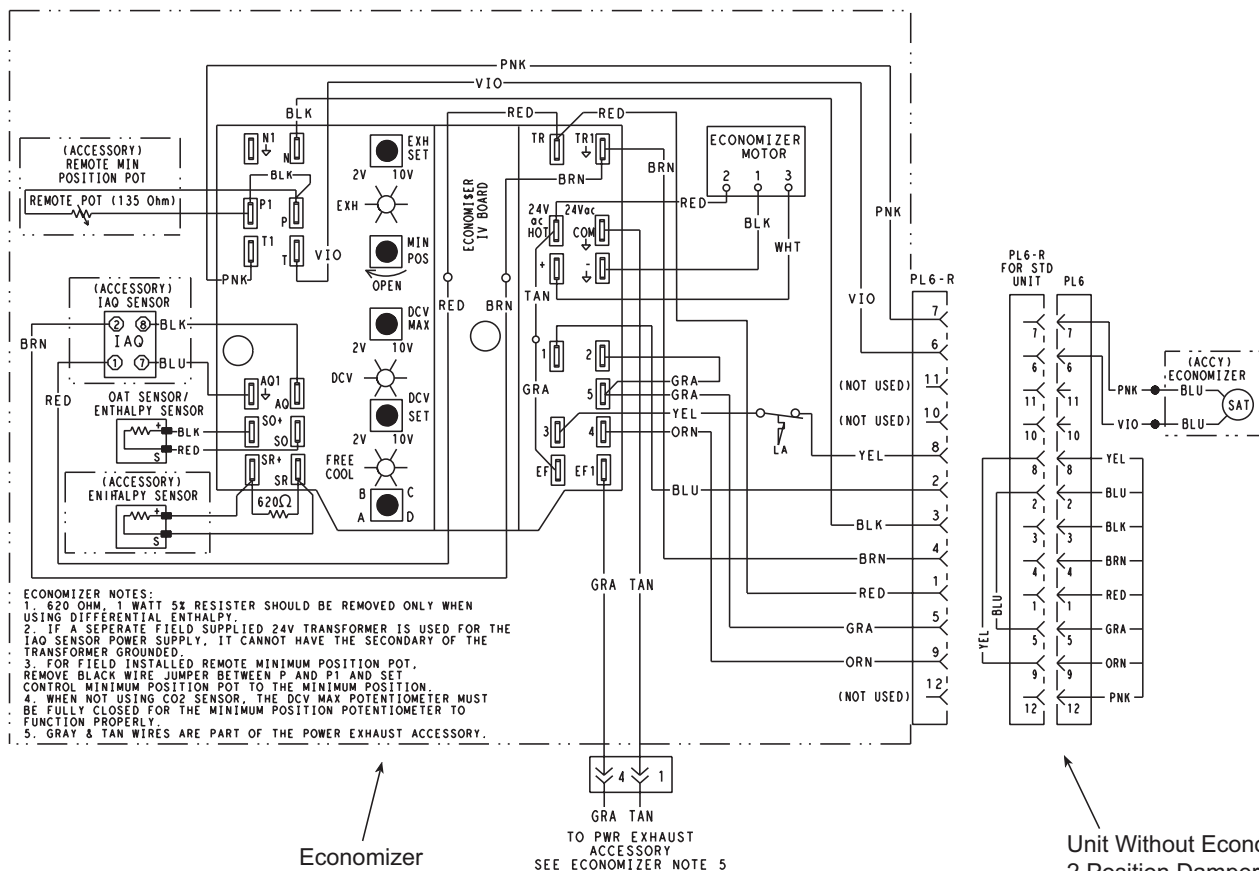
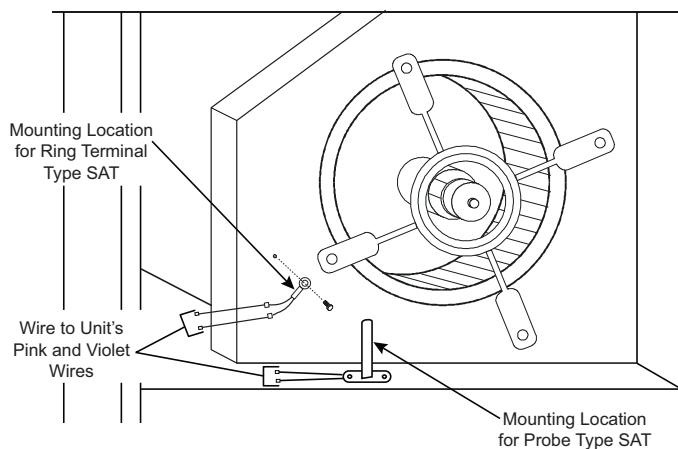
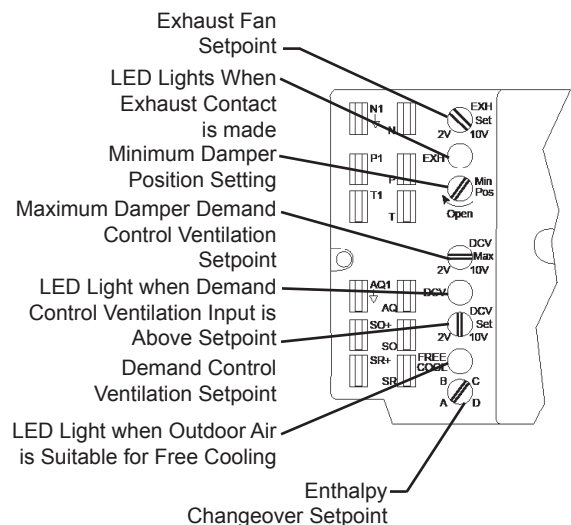

Fig. 7 - Economizer Wiring
Fig. 9 - Supply Air Temperature (SAT) Mounting Location (Probe or Ring Type)
Fig. 11 - Economizer Controller Potentiometer and LED Locations
10. Remove and save the 12-pin jumper plug from the unit wiring harness (located in the upper left corner of the unit). Insert the economizer plug into the unit wiring harness. Refer to Fig. 7 for wiring diagram.
13. The supply air temperature sensor looks like an eyelet terminal or probe with wires running to it. The sensor is located on the “crimp end” and is sealed from moisture. Mount the supply air temperature sensor (provided) to the lower left section of the indoor fan blower housing. (See Fig. 9.) Use the screw provided and use existing hole. Connect the violet and pink wires to the supply air temperature sensor. (See Fig. 7.)
- d. The minimum position for the outdoor damper can be configured at the controller. When not using CO2 sensors, set the DCV Max potentiometer to completely closed (CCW) to insure that the Minimum Position potentiometer functions correctly. When using a remote minimum position potentiometer, the Min Pos Pot on the controller must be fully CW. See Fig. 11.
- e. Settings on the, power exhaust and CO2 sensor can be configured at the controller. See Fig. 11.
OCCUPANCY CONTROL (R22 MODELS) — The factory default configuration for the economizer control is occupied mode. Occupied status is provided by the black wire from Pin 3. When unoccupied mode is desired, install a field supplied timeclock function interrupting the black wire to the N terminal. (See Fig. 7) When the timeclock contacts are closed, the economizer control will be in occupied mode. When the timeclock contacts are open (removing the 24-v signal from terminal N), the economizer will be in unoccupied mode.
SUPPLY / MIXED AIR TEMPERATURE (SAT) SENSOR — The supply air temperature sensor is a 3 K thermistor located at the inlet of the indoor fan. (See Fig. 9) This sensor is field installed. The operating range of temperature measurement is 0° to 158° F. See Table 5 for sensor temperature/resistance values. The temperature sensor looks like an eyelet terminal with wires running to it. The sensor is located in the “crimp end” and is sealed from moisture.
OUTDOOR ENTHALPY CHANGEOVER (-DWES Models) — When the outdoor air enthalpy rises above the outdoor enthalpy changeover set point, the outdoor-air damper moves to its minimum position. The outdoor enthalpy changeover set point is set with the outdoor enthalpy set point (ABCD) potentiometer on the economizer controller. The set points are A, B, C, and D (See Figs. 11, 14 and 15). The factory-installed 620-ohm jumper must be in place across terminals SR and SR+ on economizer controller. (See Fig. 7). When not using CO2 sensors, set the DCV Max potentiometer to completely closed (CCW) to insure that the Minimum Position potentiometer functions correctly.
DIFFERENTIAL ENTHALPY CONTROL (-DWZS Models) — For differential enthalpy control, the economizer controller uses two enthalpy sensors, 9901-0018 in the outside air and 9901-0018 in the return airstream. The economizer controller compares the outdoor air enthalpy to the return air enthalpy to determine economizer damper position. The controller selects the lower enthalpy air (return or outdoor) for cooling. For example, when the outdoor air has a lower enthalpy than the return air, the economizer opens to bring in outdoor air for free cooling. Mount the return air enthalpy sensor in the return air duct. (See Fig. 7 and 13) When using this mode of changeover control, turn the outdoor enthalpy set point (ABCD) potentiometer fully clockwise to the D setting.
POWER EXHAUST SET POINT ADJUSTMENT—If the optional power exhaust accessory is installed, the exhaust set point will determine when the power exhaust fan runs based on damper position. The set point is modified with the Exhaust Fan Set Point (EXH SET) potentiometer. (See Fig. 11) The set point represents the damper position above which the exhaust fans will be turned on. When there is a call for exhaust, the economizer controller provides a 45 ± 15 second delay before exhaust fan activation to allow the dampers to open. This delay allows the damper to reach the appropriate position to avoid unnecessary fan overload.
MINIMUM DAMPER POSITION CONTROL—There is a minimum damper position potentiometer on the W7212 controller. (See Fig. 11). Adjust the Min Pos potentiometer to allow the minimum or base amount of outdoor air, as required by local codes, to enter the building. Make minimum position adjustments with at least 10°F temperature difference between the outdoor and return-air temperatures. The minimum damper position maintains the minimum airflow for full occupancy into the building during the occupied period when demand control ventilation is not being used).